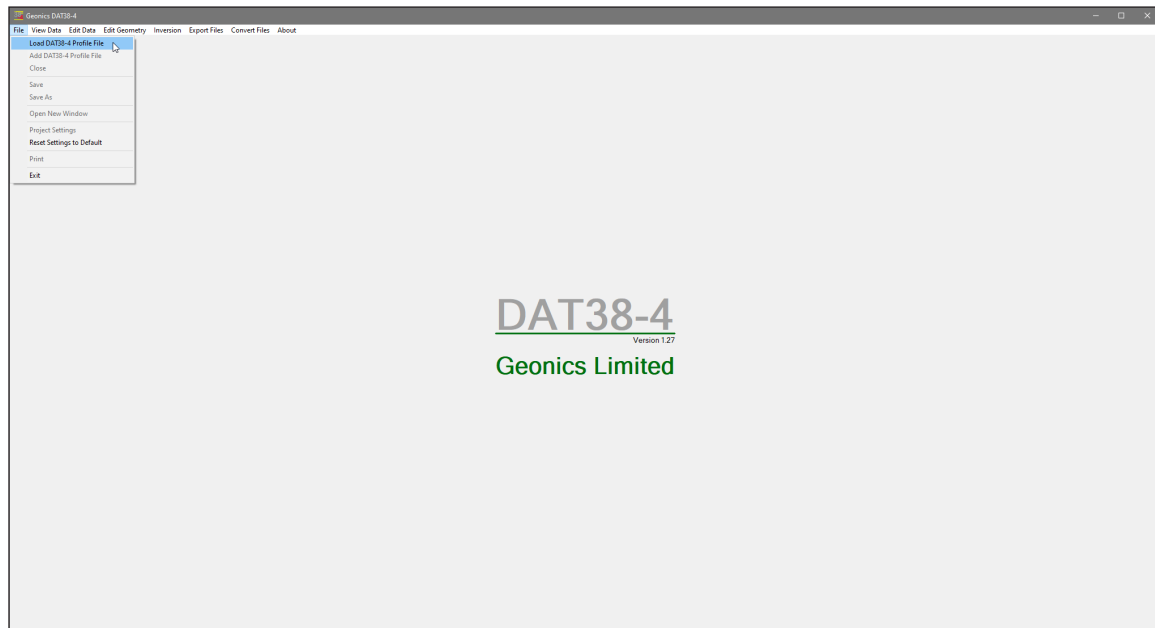

Figure 3.1 DAT38-4 File menu before any data file is loaded
- **To Load:** Choose **File | Open Profile File** (see Figure 3.1).